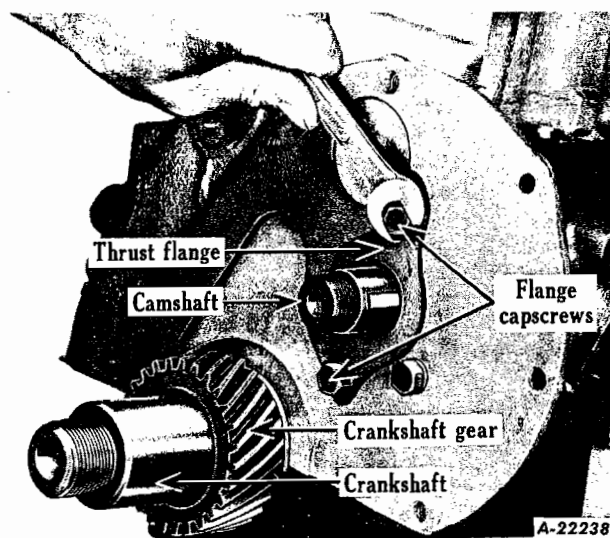

Fig. 17 - Removing camshaft with gear removed. Camshaft may be removed with gear attached.
3. Remove capscrews from camshaft retainer thrustflange plate (Fig. 17). Remove camshaft (Fig. 18). Remove capscrew holding the gear case cover plate to block; remove plate and gasket. Remove crankshaft timing gear, using a gear puller (Fig. 19). (NOTE: Lubricate puller screw to prevent damage to screw threads.)